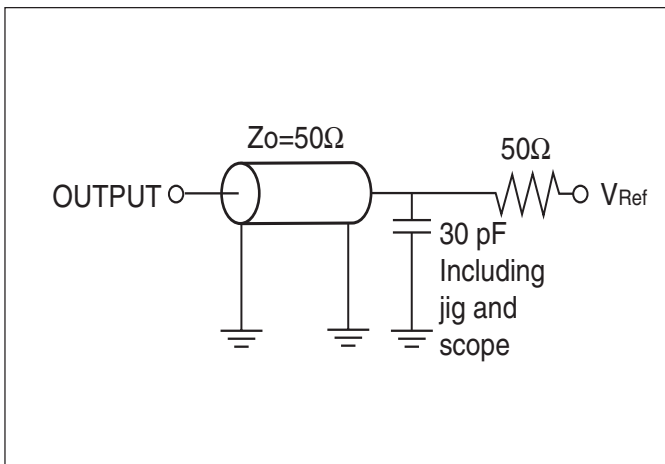

Figure 1a.
1. Test conditions assume signal transition times of 3ns or less, timing reference levels of 1.25V, input pulse levels of 0.4V to V_{DD}-0.3V and output loading specified in Figure 1a.